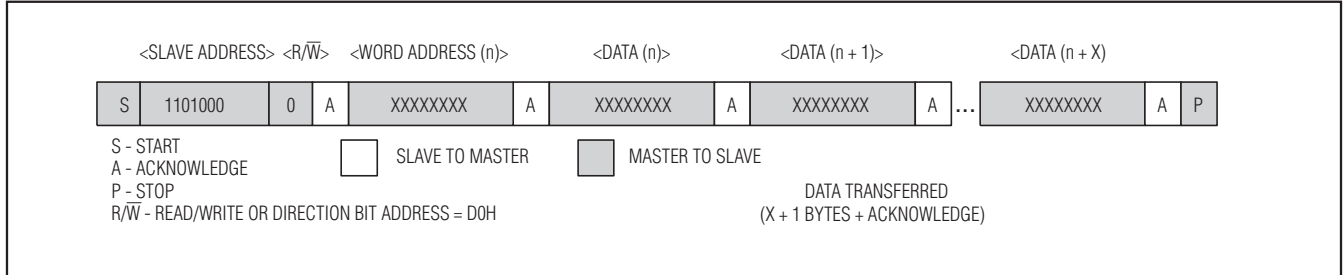

Figure 3. Data Write—RTC Slave Receiver Mode
1) Slave receiver mode (DS32x35 write mode): Serial data and clock are received through SDA and SCL. After each byte is received an acknowledge bit is transmitted. START and STOP conditions are recognized as the beginning and end of a serial transfer. Address recognition is performed by hardware after reception of the slave address and direction bit (see Figures 3, 5, and 7). The slave address byte is the first byte received after the master generates the START condition. The slave address byte contains one of the 7-bit DS32x35 addresses. The slave address is 1101000 for the RTC. For the DS32B35 FRAM, the first four bits are 1010, and the next three bits select one of eight blocks of data (see Table 2). For the DS32C35 FRAM, the first seven bits are 1010000. Each slave address is followed by the direction bit (R/\overline{W}), which is zero for a write. After receiving and decoding the slave address byte, the device outputs an acknowledge on the SDA line. After the device acknowledges the slave address and write bit, the master transmits a register address to the device. For the DS32C35, the master transmits two bytes for the register address information. This sets the register pointer on the device. After setting the register address, the master then transmits zero or more bytes of data with the DS32x35 acknowledging each byte received. The master generates a STOP condition to terminate the data write.